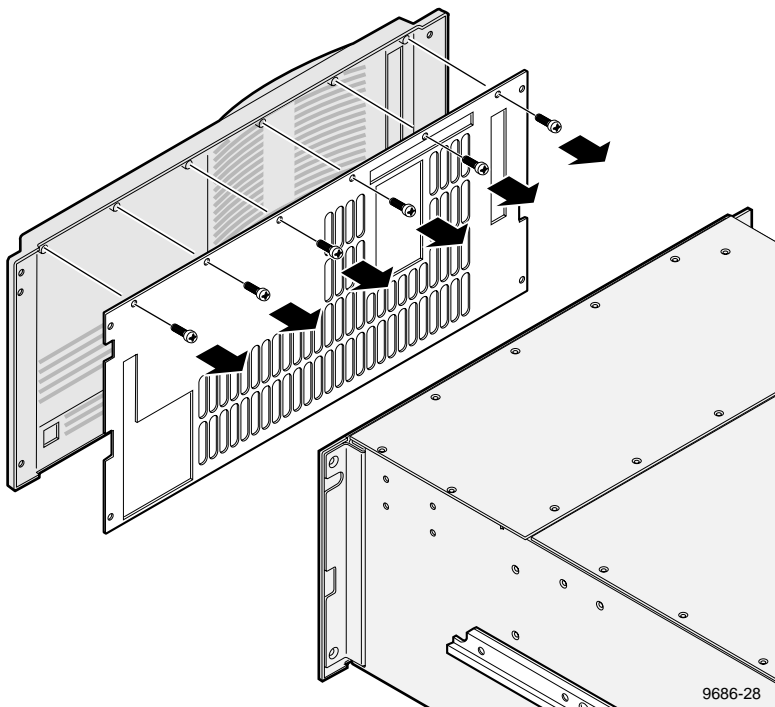

Figure 15. Removing the front panel backing plate
3. Use the Torx tool with the T8 tip to remove the six screws that attach the backing plate to the rear of the front panel (② in Figure 15) and set the backing plate aside.